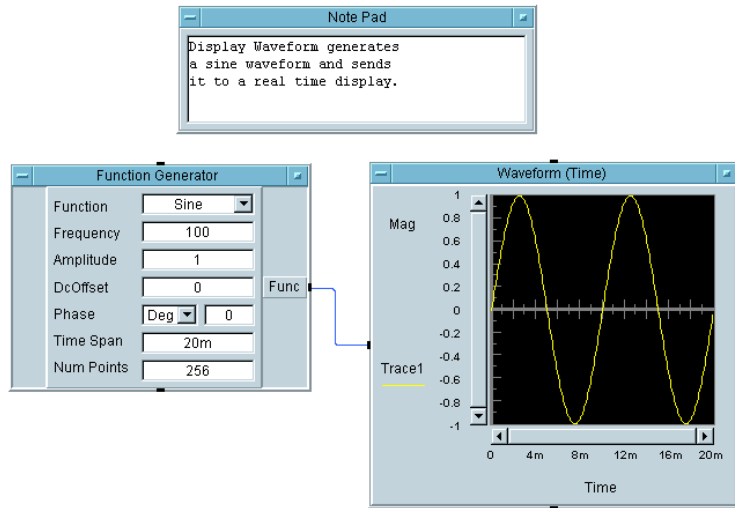

Figure 27 Changing the Function Field to Sine Wave
- 6 Continuing with the same example, click Cosine (or the arrow) in the Function field. A drop-down list of selections appears. Click Sine to select the Sine function as shown in Figure 27, noticing that the Function field has changed from Cosine to Sine.